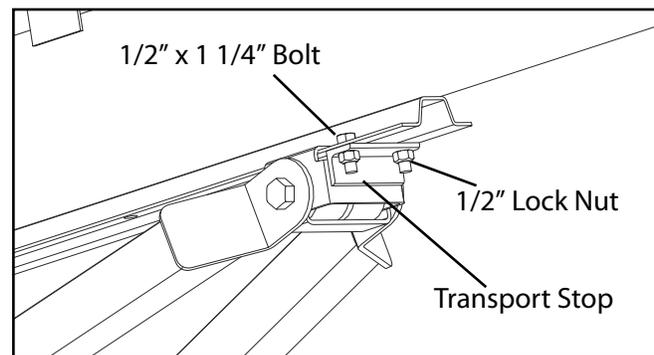
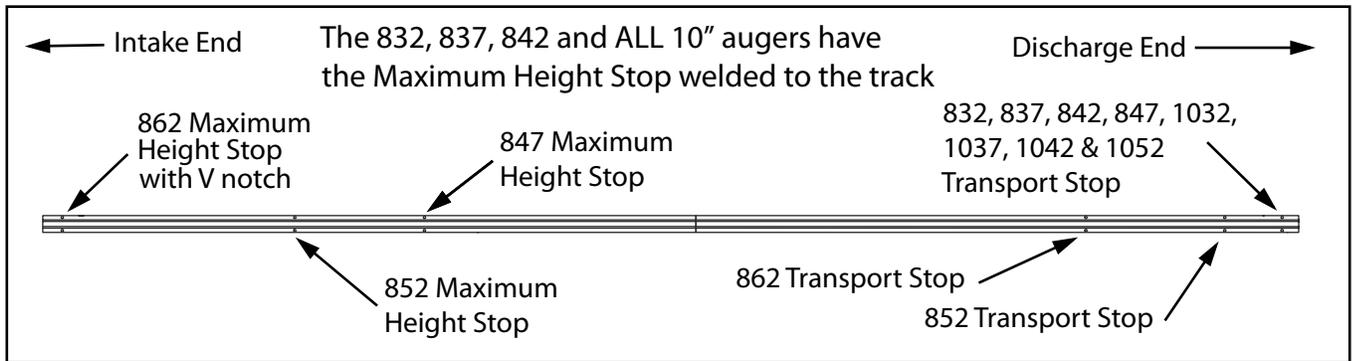

FIG. 3-15. Transport Stop Installation
FIG. 3-16. Transport and Maximum Height Stop Mounting Locations
12. Carefully move the undercarriage under the auger tube. Raise the A-Frame Arms and slip the Slide onto the upper end of the track. See Fig. 3-15.
14. Attach the Transport Stop to the track using two 1/2" x 1 1/4" bolts and lock nuts, as shown in Fig. 3-15. Fig. 3-16 shows the mounting locations for the various size augers.
15. The 847, 852 and 862 use a bolt on Maximum Height Stop. It is attached the opposite way as the Transport Stop and uses the same fasteners. Refer to Fig. 3-16 for mounting locations.